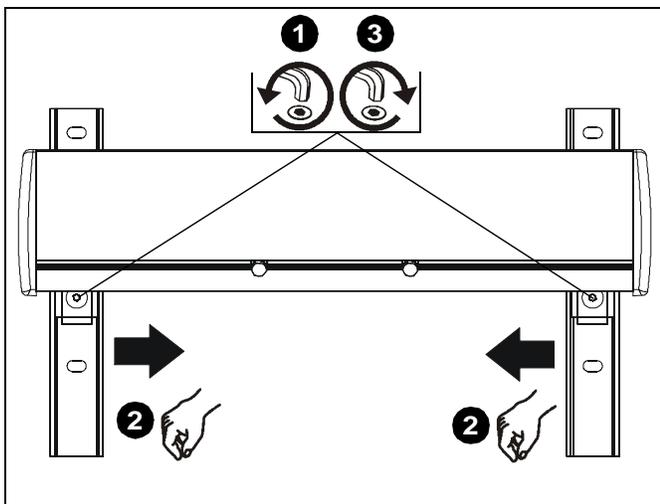

Figure 28
1. Loosen two flat head cap screws on wall bracket. (See Figure 28)
2. Slide wall brackets to corresponding width of studs. (See Figure 28)
3. Tighten two flat head cap screws on wall bracket. (See Figure 28)